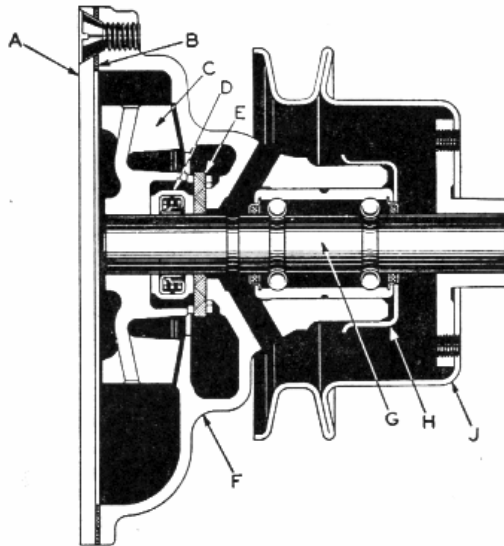
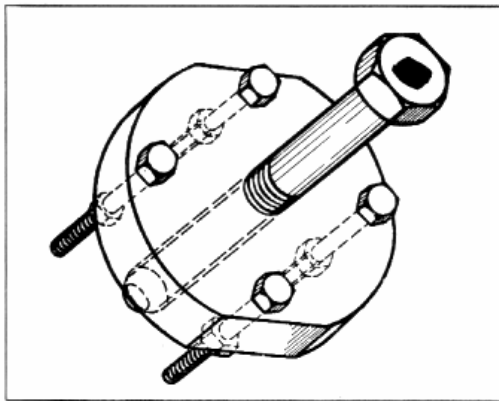

Fig. 2
Fig. 3—Fan Pulley Puller (J-1226)
The fan and water pump assembly is mounted on the front end of the cylinder block and is driven by a V-type belt from the crankshaft pulley in conjunction with the generator. See Fig. 2. The fan blades and pulleys are attached to a flanged hub which is pressed on the water pump shaft.
1. Remove the fan pulley "J", Fig. 2, using puller No. J-1226, Fig. 3. This must be attached to all four fan screw holes in the pulley in order to avoid distortion of the pulley.